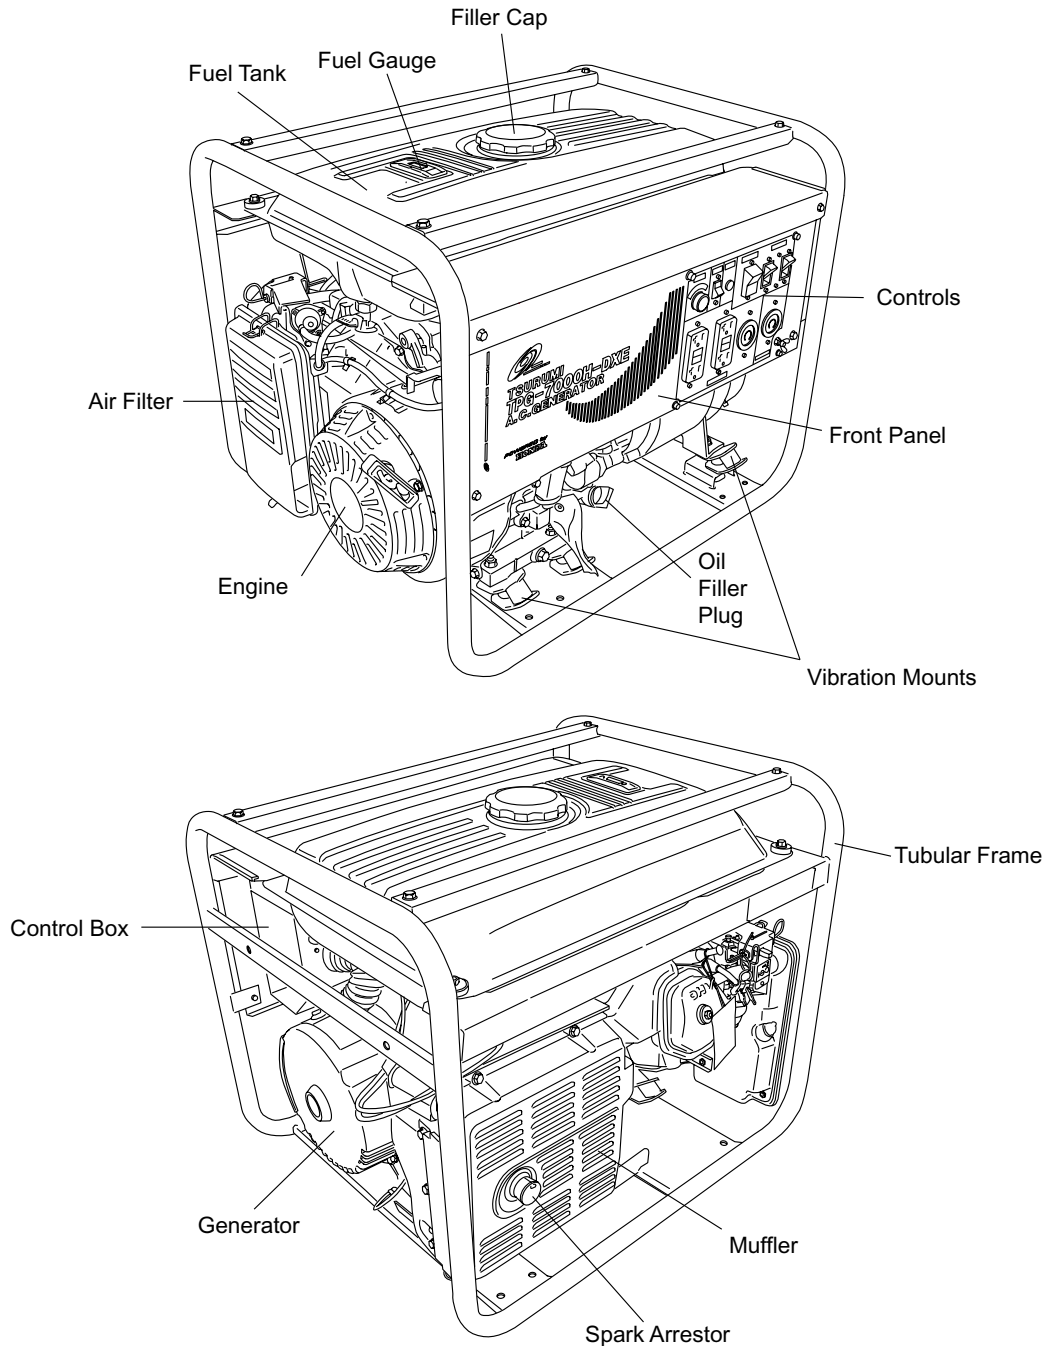
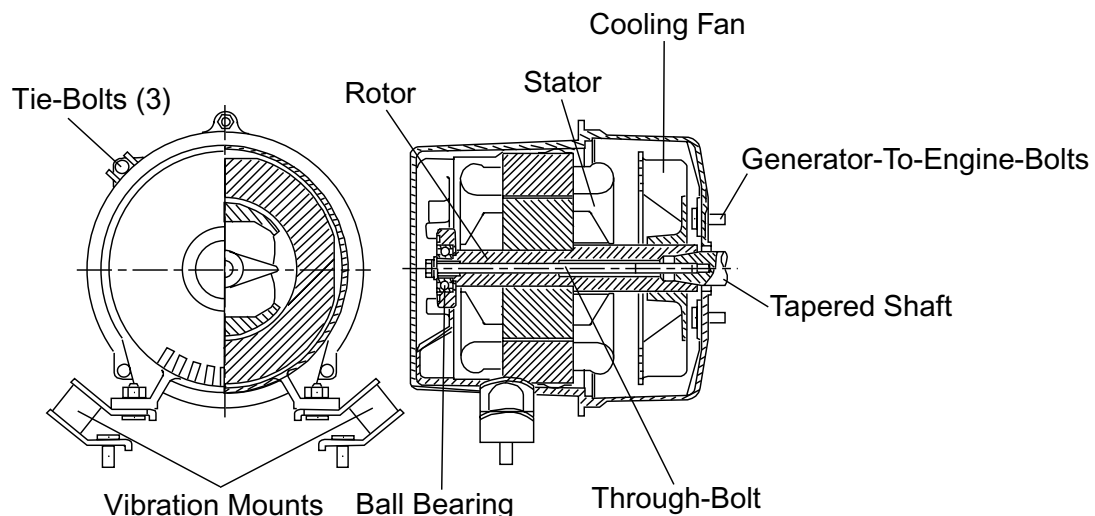

Figure 1: Key Features of Generator (Model TPG-7000H-DXE Shown)
Figure 2: Cutaway of Generator (Model TPG-2900H-DX Shown)
(1) Description of the Portable Generator
- (a) The key features of the portable generator are shown in Figure 1. A cutaway view of the generator is provided in Figure 2.